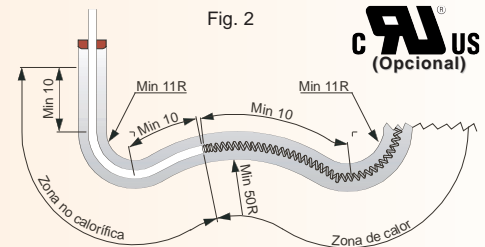

Fig. 2
**IMPORTANT:** The two ends of the heated area must be kept at least 10mm away from any curve of a radius under 50 mm. as shown in Fig. 2.